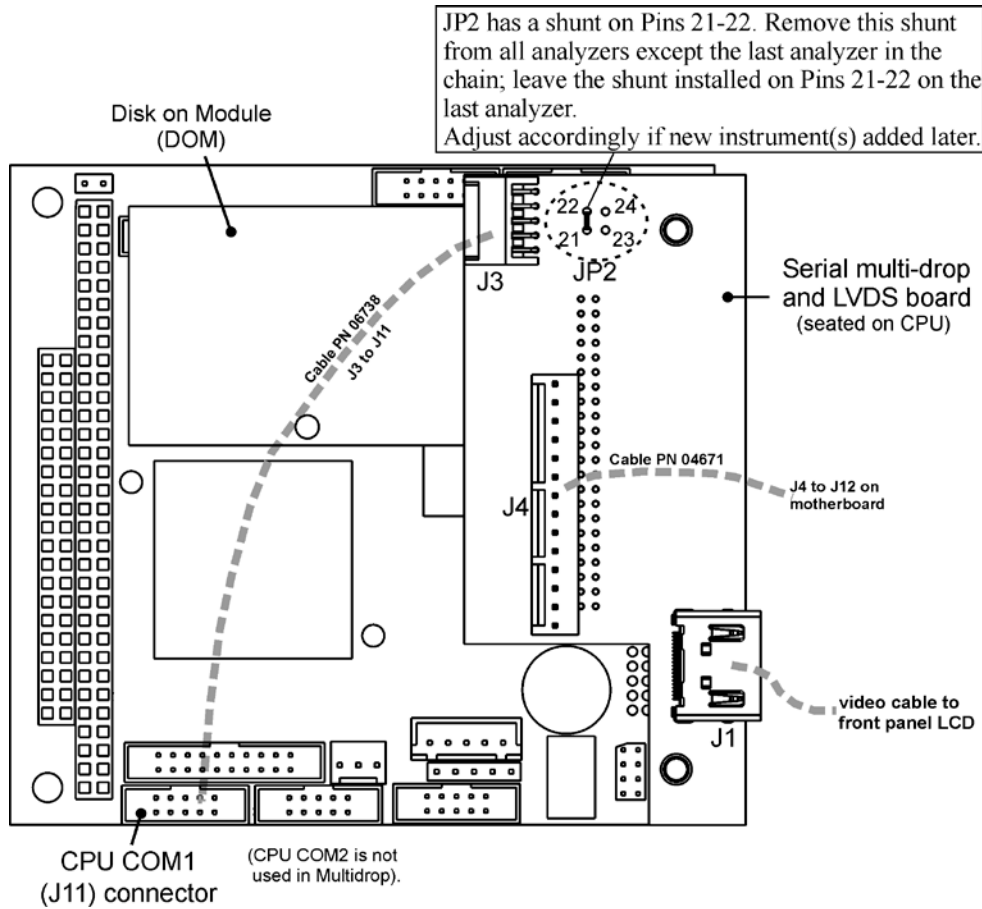

Figure 4-9: Jumper and Cables for Multidrop Mode
In each instrument with the Multidrop option there is a shunt jumpering two pins on the serial Multidrop and LVDS printed circuit assembly (PCA), as shown in Figure 4-9. This shunt must be removed from all instruments except that designated as last in the multidrop chain, which must remain terminated. This requires powering off and opening each instrument and making the following adjustments:
21 ↔ 22 as indicated in Figure 4-9. (Do this for all but the last instrument in the chain where the shunt should remain at Pins 21 ↔ 22).
3. Check that the following cable connections are made in *all* instruments (again refer to Figure 4-9).